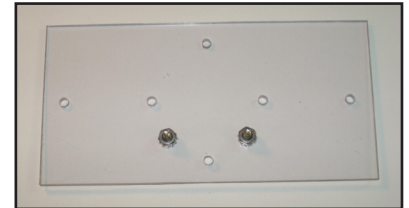

Fig. 38
- ☐ Select one (1) of the Element Mounting Plates and insert two (2) 10-24 x 5/8" Machine Screws as shown in Fig. 38. Fasten the screws using two (2) 10-24 Hex Nuts with Tooth Washer. Tighten both fasteners well. These fasteners will later become terminals for the 20M Driven Element Wires.